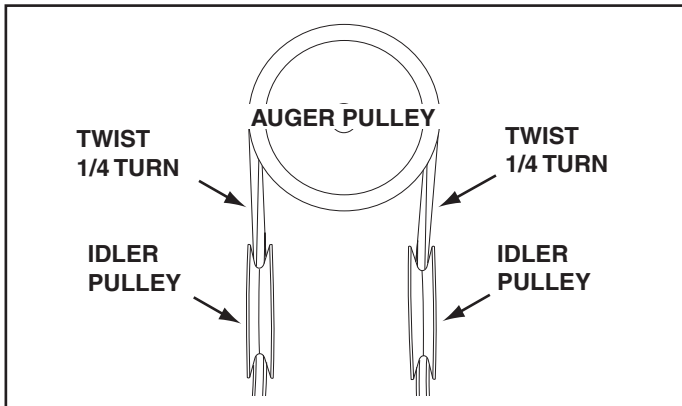

FIGURE 29
### STEP 31: (SEE FIGURE 29)
- Install new belt over top of large auger drive pulley and under the two side idler pulleys. Twist the belt 1/4 turn to seat the "V" of the belt in the groove of each idler pulley. Refer to figure 29 on page 16.